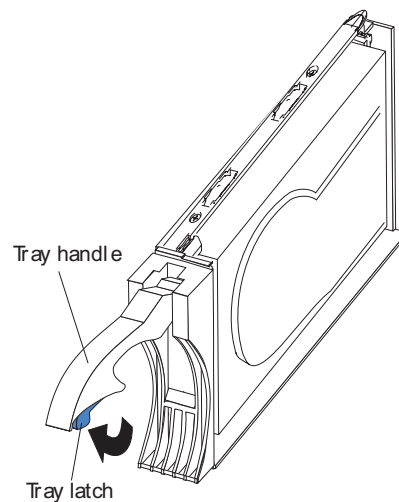

Figure 80. E-DDM CRU handle
- b. Pull the handle on the tray out so that it is in the open position, as shown in Figure 80.
- a. Release the latch on the E-DDM CRU by pressing on the inside of the bottom of the tray handle, as shown by the arrow in Figure 80 on page 131.